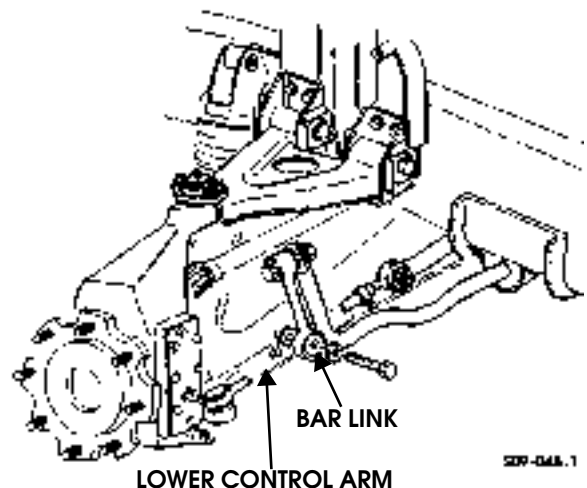

Figure 9-12: Bar Link Replacement
3. Remove bolt, two washers, and bar link (front only) from lower control arm (Figure 9-12).
7. Apply thread-locking compound to threads of bolt. Install bar link on lower control arm with two washers and bolt. Tighten bolt to 70 lb-ft (95 N•m) (Figure 9-12).